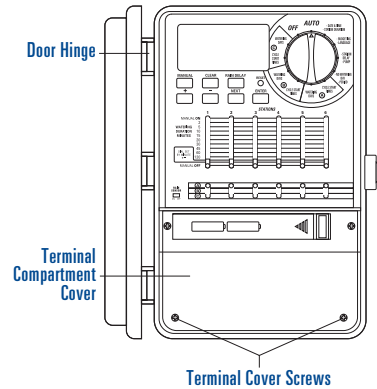

Figure A1: Terminal Cover Figure
- Remove the “Terminal Cover” by unscrewing the two screws and pulling the plastic cover forward, this reveals the “AC Sub Plate”. [See Figure A1]